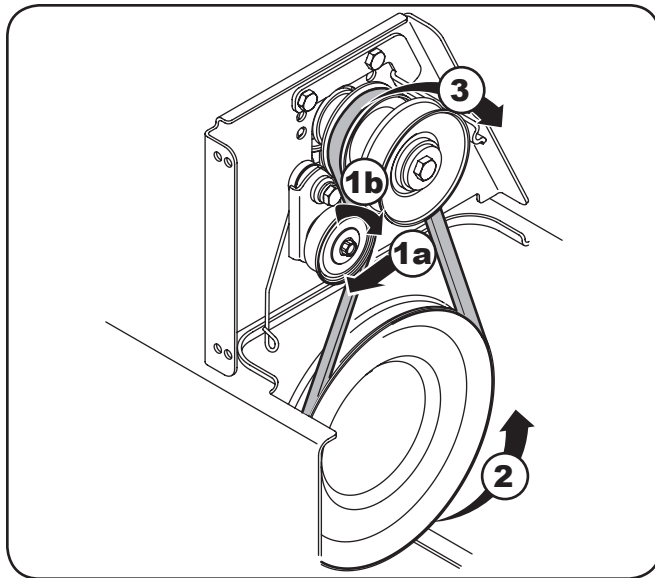

Figure 8-8
1. Use a wrench to rotate the idler pulley away from the backside of the drive belt to relieve the tension and slip the drive belt off the idler pulley. Carefully release the idler pulley. See Fig. 8-8.